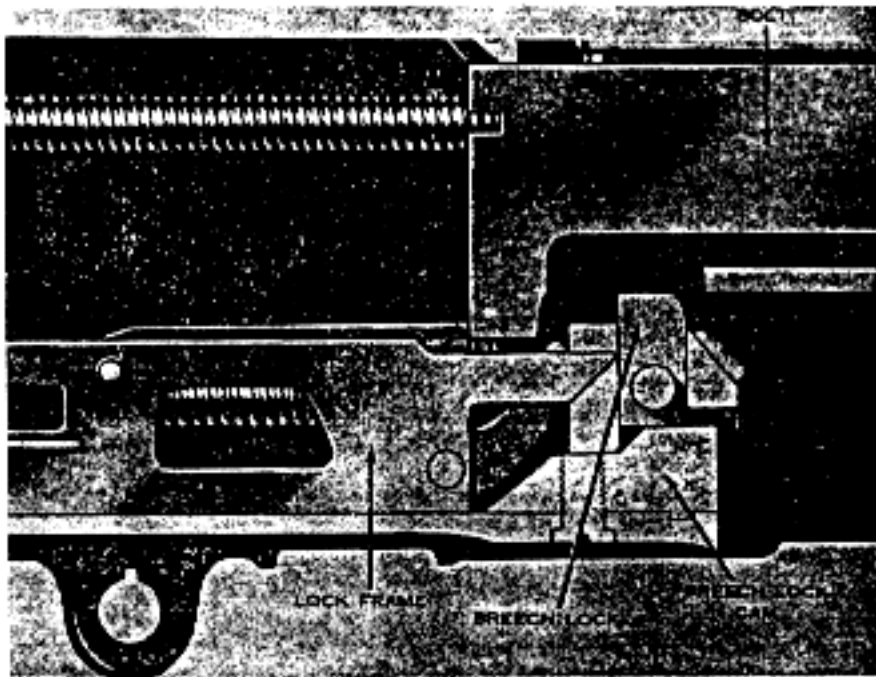

Figure 66. Breech lock engaged.
#### a. First Phase (figs. 66 and 67).
- (1) When the recoiling groups (bolt, barrel, and barrel extension) are in their forward position, the bolt is locked to the barrel extension and against the rear end of the barrel by the breech lock. Note in figure 66 that the breech lock is positioned on top of the breech lock cam and in the